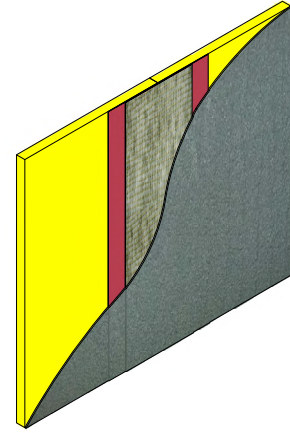

Figure 20
3. Mix and apply Senershield-R/-RS/-VB per the product bulletin instructions over substrate. (See Figure 20)